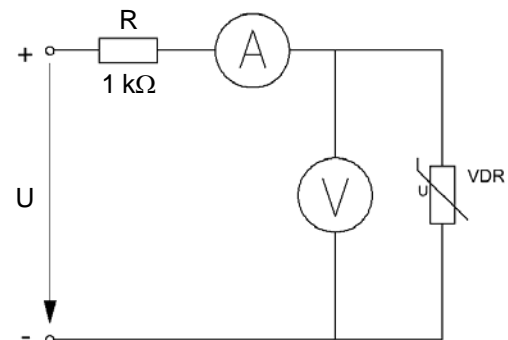

Fig. 2.3.2.1: Characteristic recording $I = f(U)$ and $R = f(U)$
- Assemble the exercise circuit on the Board (Fig. 2.3.2.1.)